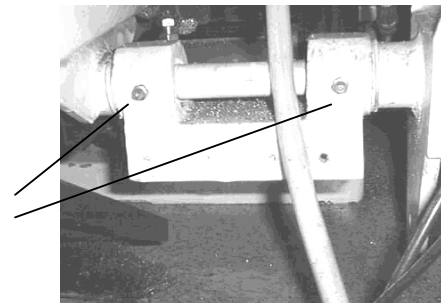

Fig.22
Occasionally lubricate the pivot using waterproof grease at the fittings (C) (fig 22)